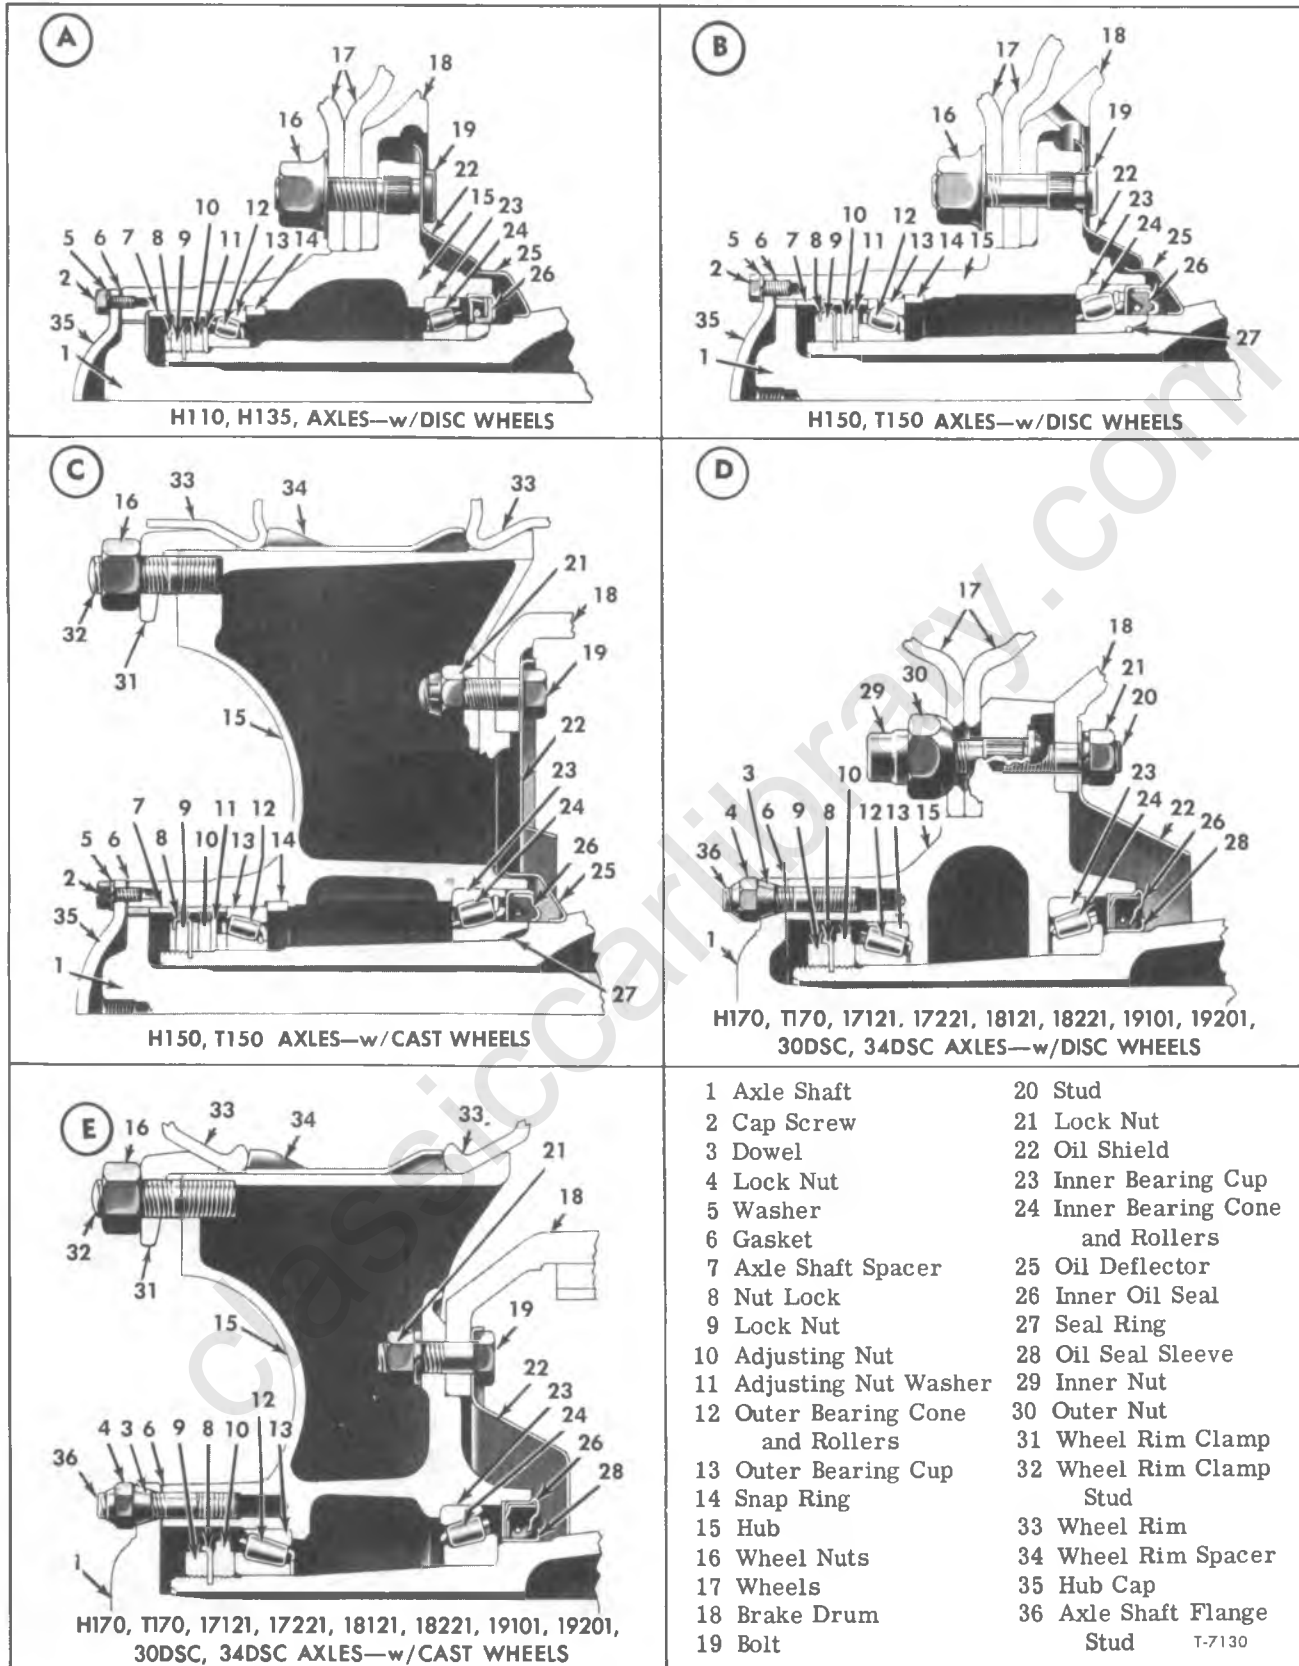

Figure 2—Rear Hubs, Bearings, and Oil Seals
Rear hubs on all series trucks are mounted to axle housing tube on opposed tapered roller bearings as shown in figure 2. Hubs, bearings, and oil seals are identified with the type of rear axle. Refer to "Service Parts Identification Decal" to determine type of axle used on a specific vehicle.
(Refer to Figure 2)
2. On Type E in figure 2, lift wheel (hub) and
3. On Type D in figure 2, carefully pull hub assembly straight off axle housing, using care to prevent outer cone and roller assembly from dropping out of hub. Remove outer bearing cone and roller from hub.